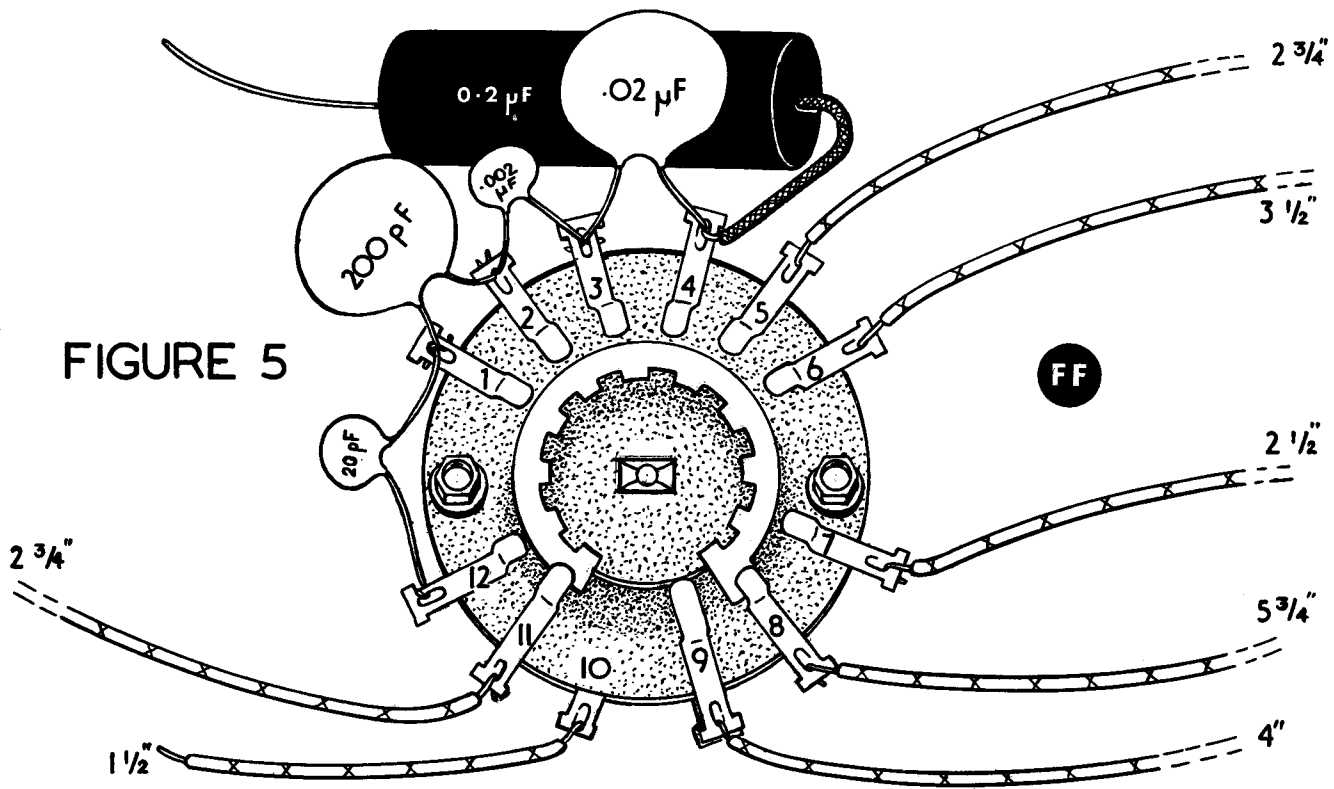

FIGURE 5
- (✓) Select the HOR/FREQ. SELECTOR switch FF. This is the 12-tag wafer switch. Note that one of the contacts has tags on both sides of the wafer. Using this tag as a reference, position the switch as shown in Figure 5. Also note that tag 10 is on the shaft side of the wafer.
Refer to Figure 5 for the following steps:
- (✓) Connect a 20 pF ceramic disc capacitor from FF tag 12 (NS) to FF tag 1 (NS).
- (✓) Connect a 200 pF ceramic disc capacitor from FF tag 1 (S-2) to FF tag 2 (NS).
- (✓) Connect a .002 μF ceramic disc capacitor from FF tag 2 (S-2) to FF tag 3 (NS).
- (✓) Connect a .02 μF 500V ceramic disc capacitor between FF tag 3 (S-2) to FF tag 4 (NS).
- (✓) Carefully check the switch wiring against Figure 5. Make sure that there is no short circuit from FF tags 1, 6, 7 and 12, to the nuts holding the switch together.